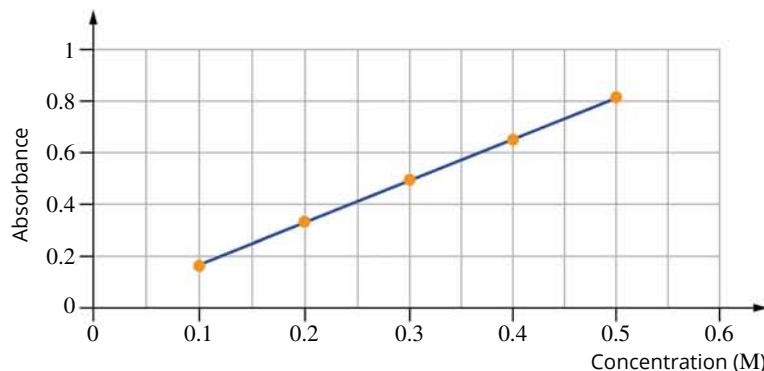

FIGURE 18.4.4 Calibration curve for nickel(II) sulfate.
You can then construct a **calibration curve** from the data. A calibration curve is a plot of the absorbances of the standards against their concentration. Figure 18.4.4 shows the calibration curve created from the nickel(II) sulfate data in Table 18.4.2.